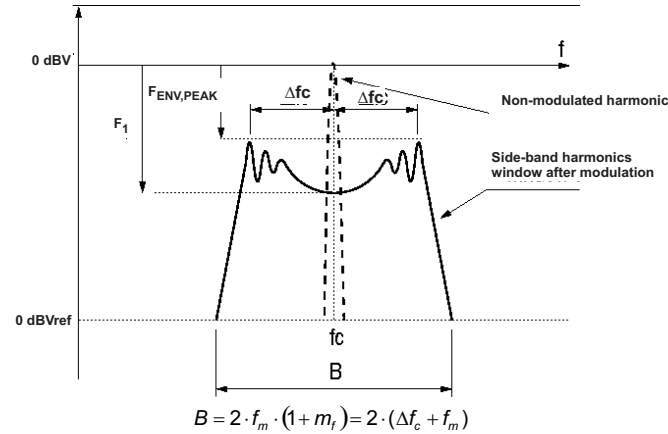
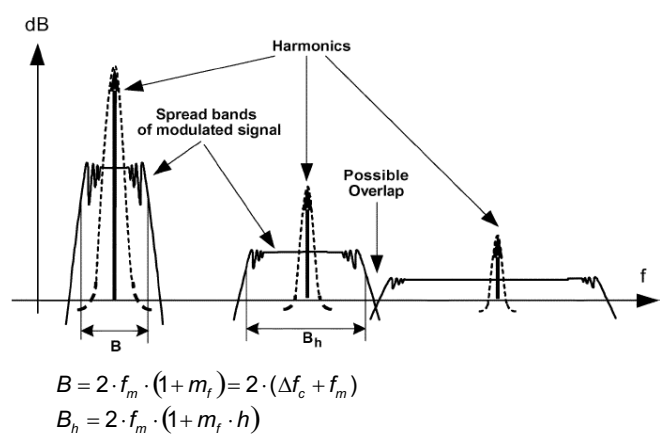

Figure 24. Spectrum Of A Frequency Modulated Sin. Wave With Sinusoidal Variation In Time
Figure 25. Spread Bands Of Harmonics In Modulated Square Signals ⁽¹⁾
(1) Spectrum illustrations and formulae (Figure 24 and Figure 25) copyright IEEE TRANSACTIONS ON ELECTROMAGNETIC COMPATIBILITY, VOL. 47, NO.3, AUGUST 2005. See References Section for full citation.